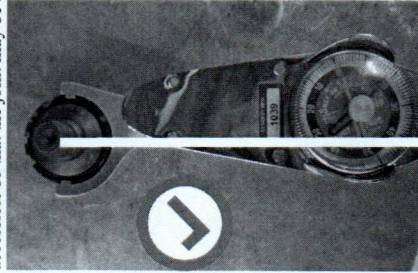
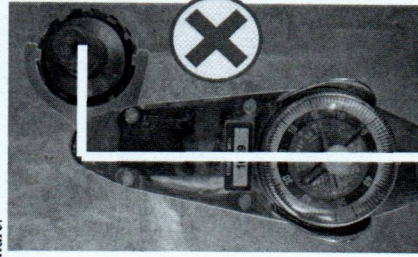
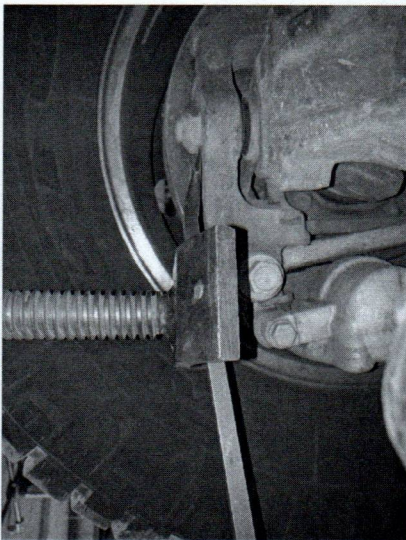

Figure 20. Correct Wrench Orientation
Figure 21. Incorrect Wrench Orientation
Figure 18. Checking Preload
4. We highly recommend setting preload by using a 1/4" drive torque wrench, see step 4. If no torque wrench is available, tighten the joint until there is no vertical play while using a large prybar to pry up on the steering knuckle as shown in **Figure 18**.
5. With the tabs bent out of the way, slowly turn the cap clockwise (threads are right hand) using the provided adjuster tool and a 1/4" drive torque wrench. Tighten the joints until 120 lb-in (10 lb-ft) is shown on the torque wrench. Our adjustment torque spec is the torque at the wrench, not at the joint (due to the included crows foot type adapter). It is important that the torque wrench is oriented parallel to the crows foot adapter, as seen in **Figure 20**. **Figure 21** shows the wrench oriented incorrectly, at a 90 degree angle to the adapter. Once the torque spec is achieved, verify that there is no vertical play in the joint, as shown in **Figure 18**. In some cases, due to too tight of a press fit, more torque may be required to eliminate vertical play in the ball joint. Tighten further until vertical play is gone. Once it has been adjusted properly, bend the tabs from the lock ring to engage with the cap. We recommend at least two tabs bent into the cap. Only bend up locking tabs that are accessible so that the joint may be adjusted again in the future.
1. It is important to periodically check the lower ball joints for play. The easiest way to check for a loose joint is to place a jack under the axle housing on one side. Raise the jack so that the tire is just off the ground. Place a jack stand, just behind the axle housing, next to the tire. Using a prybar or other lever, try and 'push' the steering knuckle upwards. See **Figure 18**. Per factory spec, there is up to .050" of vertical play allowable. We recommend keeping this number as close to zero as possible.